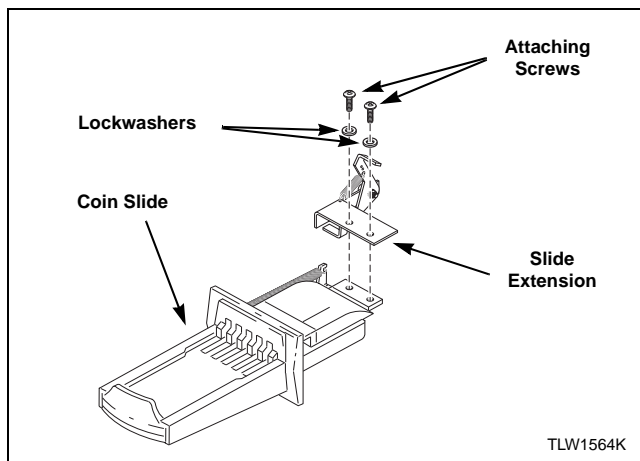

Figure 32
1. Install slide extension onto top of coin slide using two remaining screws and lockwashers. Refer to *Figure 32*.
3. Install slide extension onto top of coin slide using two screws and lockwashers. Refer to *Figure 32*.